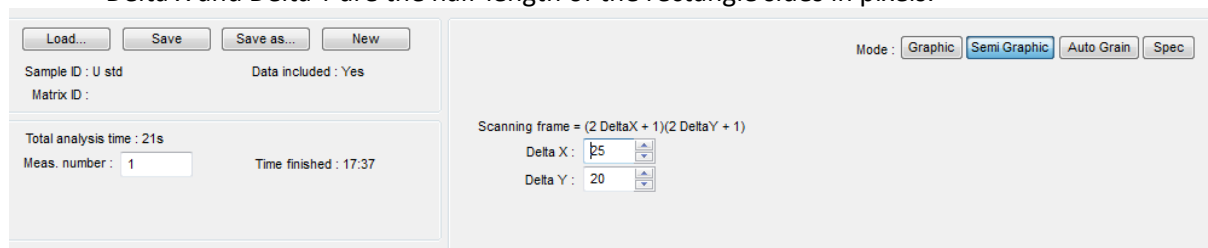

Figure 369: Semi-Graphic option in Grain Mode Def Analysis
- Define the size of the selection area (Figure 369).